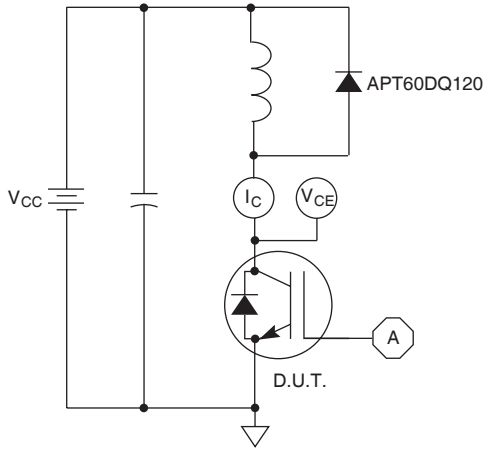

Figure 21, Inductive Switching Test Circuit
① Repetitive Rating: Pulse width limited by maximum junction temperature.
② For Combi devices, I_{oes} includes both IGBT and FRED leakages
③ See MIL-STD-750 Method 3471.
④ E_{on1} is the clamped inductive turn-on energy of the IGBT only, without the effect of a commutating diode reverse recovery current adding to the IGBT turn-on loss. Tested in inductive switching test circuit shown in figure 21, but with a Silicon Carbide diode.
⑤ E_{on2} is the clamped inductive turn-on energy that includes a commutating diode reverse recovery current in the IGBT turn-on switching loss. (See Figures 21, 22.)
⑥ E_{off} is the clamped inductive turn-off energy measured in accordance with JEDEC standard JESD24-1. (See Figures 21, 23.)
⑦ R_G is external gate resistance, not including $R_{G(int)}$ nor gate driver impedance. (MIC4452)